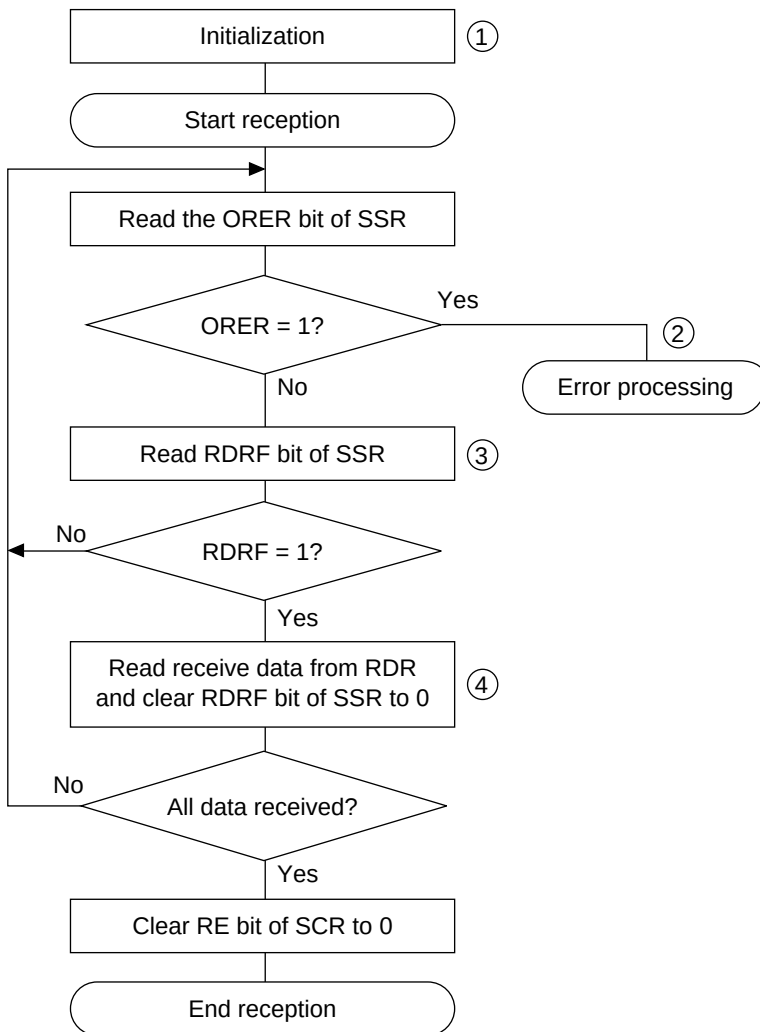

**Figure 14.20 Sample Flowchart for Serial Receiving (1)**
**Receiving Serial Data (Clock Synchronous Mode):** Figures 14.20 and 14.21 shows a sample flowchart for receiving serial data. When switching from the asynchronous mode to the clock synchronous mode, make sure that ORER, PER, and FER are cleared to 0. If PER or FER is set to 1, the RDRF bit will not be set and both transmitting and receiving will be disabled.